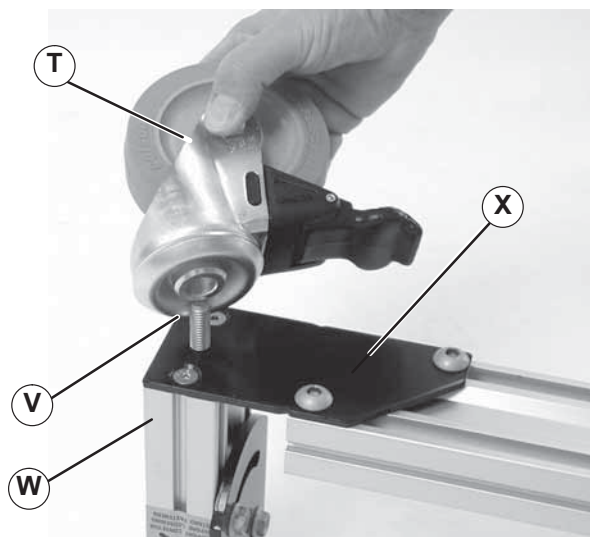

Figure 12
1. Install caster (Figure 12, item T) over bolt (V). Bolt is already assembled in stand leg (W) and through the tie plate (X).